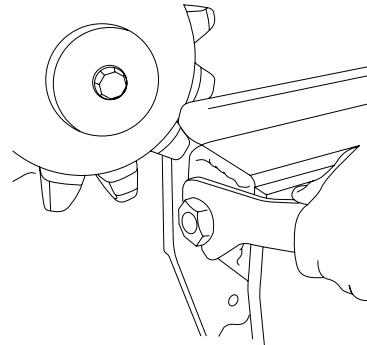

Figure 26
1. To adjust or remove the chain – remove the ½" bolt and the spanner wrench from the outer boom [Figure 26].
2. Use the spanner wrench to turn adjuster nut clockwise to loosen, and counter-clockwise to tighten [Figure 26].